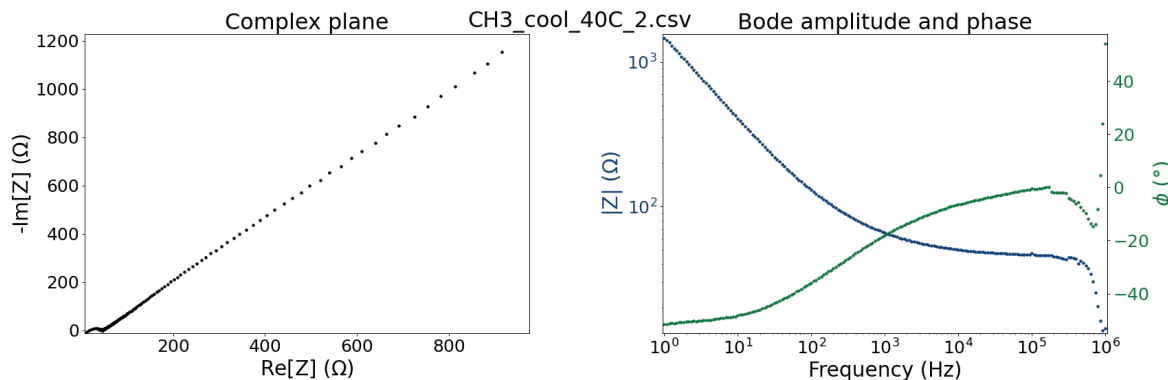

Figure 15: Impedance spectrum of  $\text{RbOH} \cdot x\text{H}_2\text{O}$ .
2. Go to **File>Load data...** and navigate to the `examples` folder (`path_to_decim/DECiM/examples`). Go to `RbOH_xH2O`. Change the **Text files** option to **All files** and open the `CH3_cool_40C_2.csv` file. The data should now appear in the main DECiM window, looking like Figure 15.